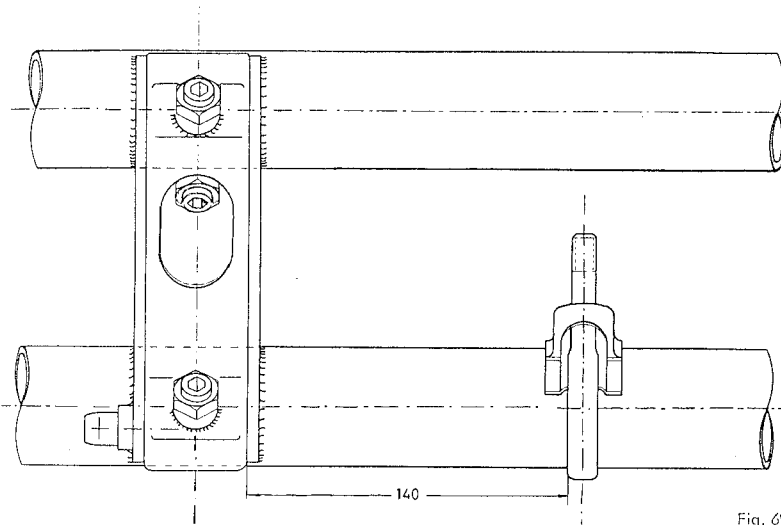

Fig. 69
4. Make sure that the dimension shown in fig. 69 is adhered to when assembling the retaining clip.